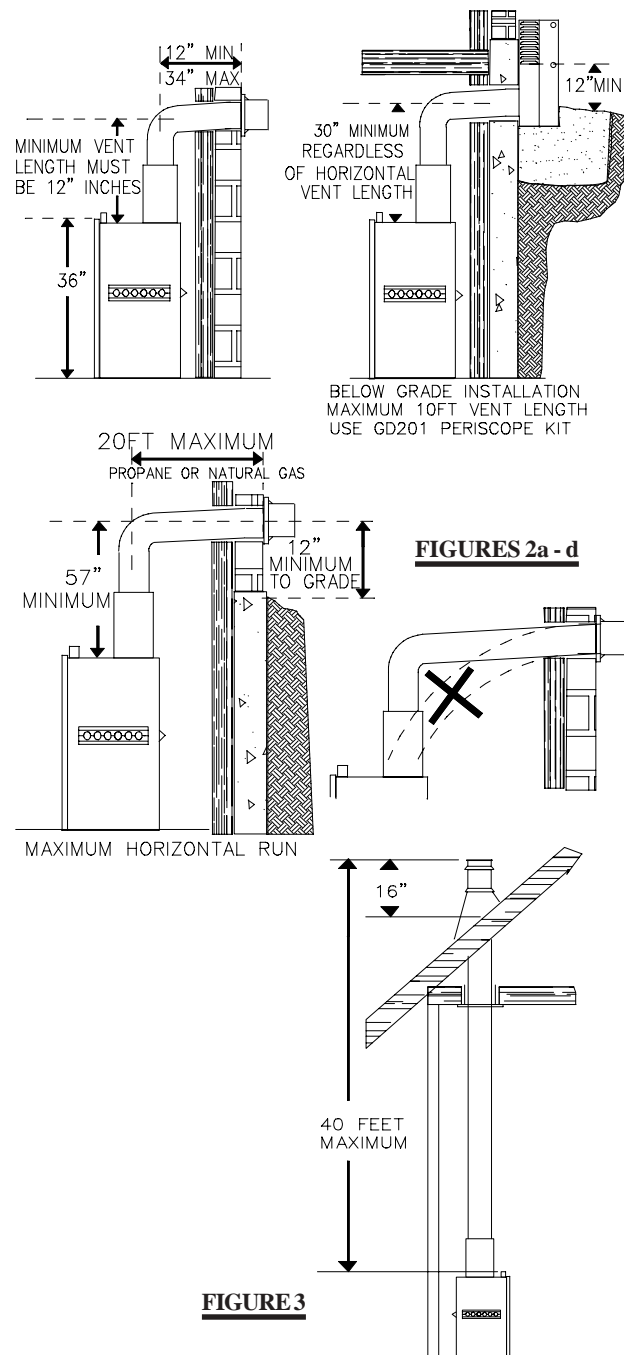

FIGURE 3
*When venting, the horizontal run must be kept to a minimum of 12 inches or a maximum of 20 feet. If a 20 foot horizontal run is required, the fireplace must have a minimum vertical rise immediately off the fireplace of 57 inches. **FIGURES 2a-c.** When terminating vertically, the vertical rise is a minimum 34 inches and a maximum 40 feet above the fireplace. **FIGURE 3.***